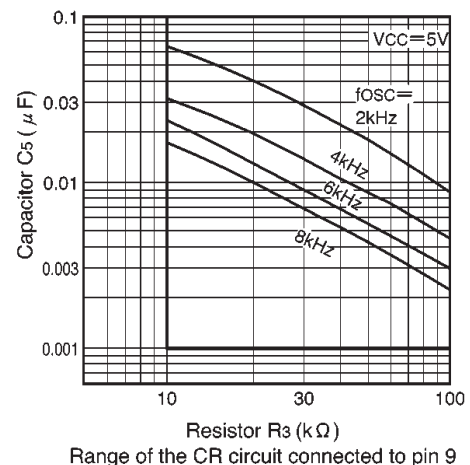

Fig. 9
(1) Use the potentiometers VR1 and VR2 connected to pins 1 and 3 to set the 0dB levels and adjust the channel 1 and channel 2 balance.
(2) The recommended oscillator frequency is 4kHz (pin 9). The external component values for  $C_5$  and  $R_3$  are  $0.01\mu\text{F}$  and  $41\text{k}\Omega$  (or  $39\text{k}\Omega$ ). If you wish to use other values, they should be in the ranges  $0.001\mu\text{F}$  to  $0.1\mu\text{F}$  and  $10\text{k}\Omega$  to  $100\text{k}\Omega$ . (see Fig. 9).
(3) The dynamic ranges for the BA6820F and BA6822S/F comparators are large, and the comparators will operate even with low-level signals.